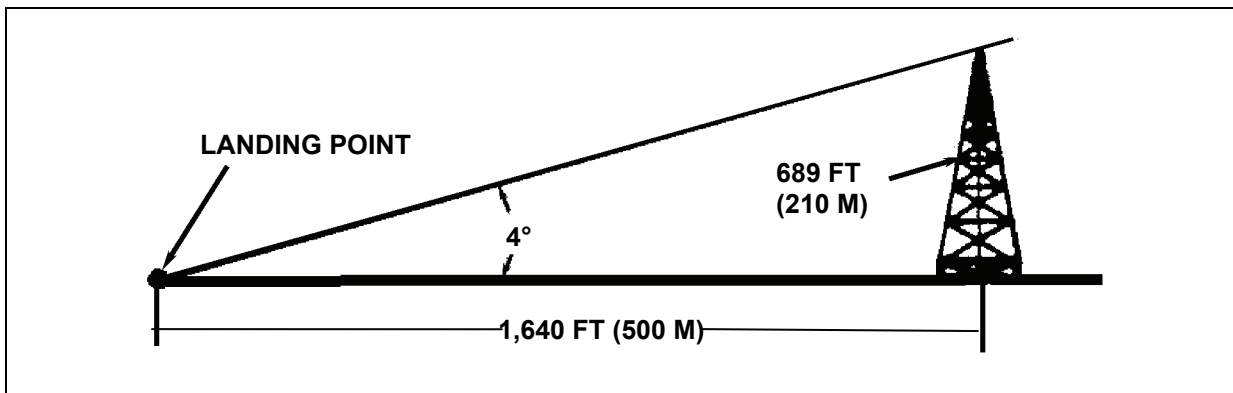

Figure 4-5. Maximum Angle of Approach (Night)
- Night Approach.** Within the night approach and exit path, the maximum obstruction angle should not exceed 4 degrees measured from the center of the landing point to a distance of 3,000 meters (9,843 feet) (Figure 4-5). The maximum obstacle height at 3,000 meters is 210 meters (689 feet). The field expedient formula is that for every meter of vertical obstacle, you must have 14 meters of distance from the center of the landing point to the obstacle. That is, a landing point must be 280 meters from a 20-meter tree if the helicopter must approach or exit directly over the tree. Another night operation planning consideration is the helicopter approach and exit path area and the maximum obstacle height within that area. Remember, this criteria applies to both the approach path to the landing point as well as the exit path from the landing point. First we must define the area that is the approach and exit path.